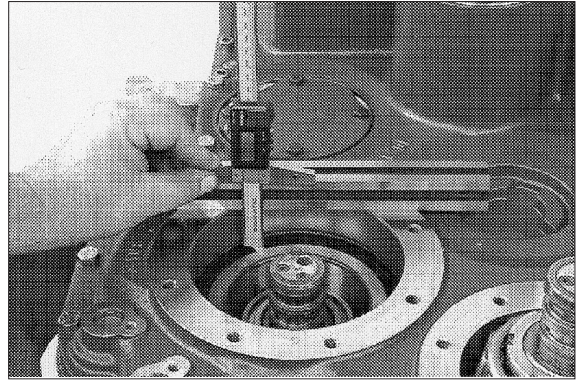

Figure 248
**Adjust the bearing preload of clutch K4/K3 = 0.0~0.05 mm (figure 248~250)**